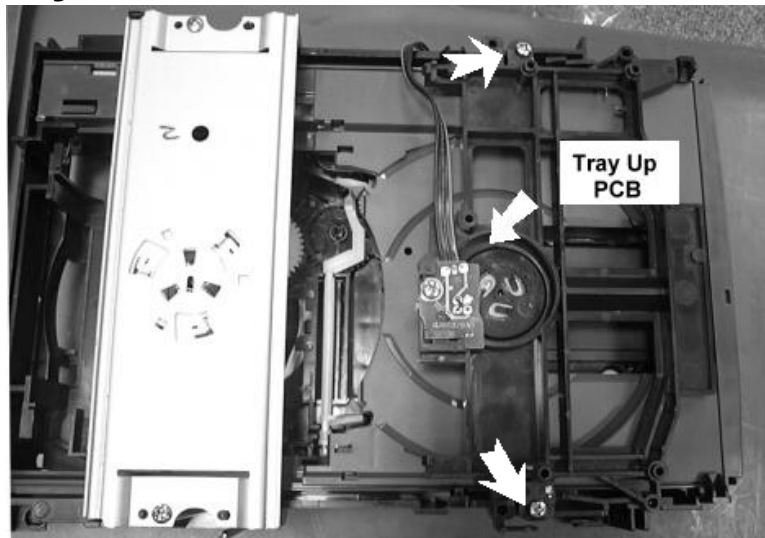

Figure 1
- 1) Remove the two screws securing the mechanism cover (329), which includes the magnet. You may also have to remove the tray up switch PCB depending on the length of the ribbon cable. (Figure 1)